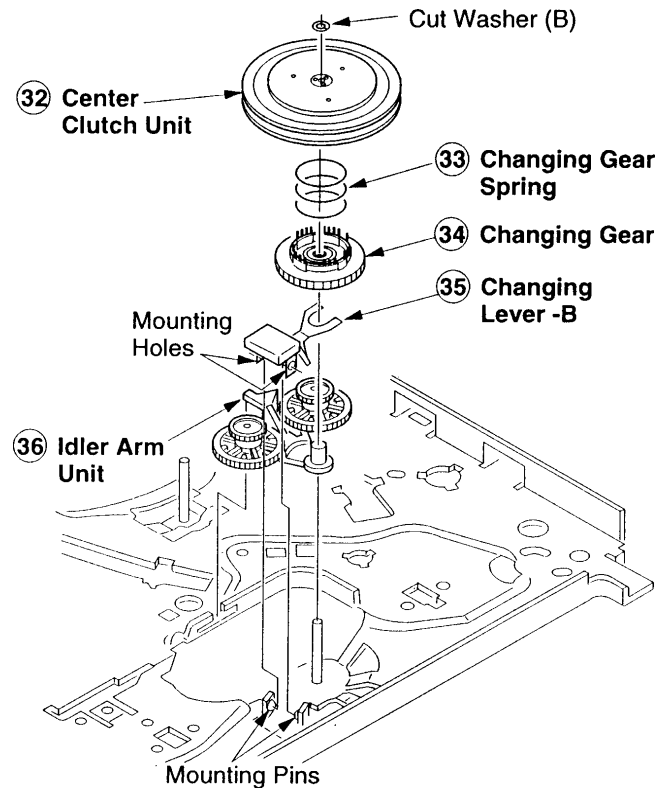

Fig. 23 - Center Clutch Unit/Changing Gear Spring/Changing Gear/Changing Lever-B/Idler Arm Unit Removal
Center Clutch Unit/Changing Gear Spring/Changing Gear/Changing Lever-B/Idler Arm Unit Removal (Figs. 23, 24)
1. Remove one (1) cut washer (B) and then remove the center clutch unit, changing gear spring and the changing gear (Fig. 23).
2. Lift the changing lever-B from the two (2) pins.